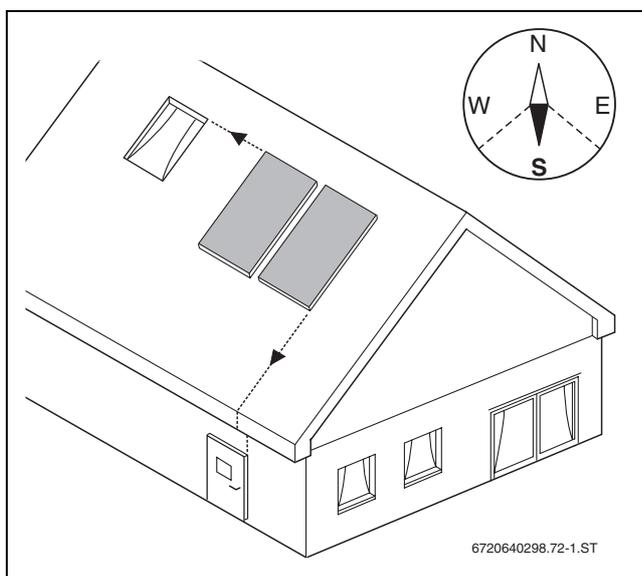

Fig. 18
- Align the collector array facing as close to south as possible (→ Fig. 18).
- Align the collector array so that it is in line with windows, doors etc. (→ Fig. 18).